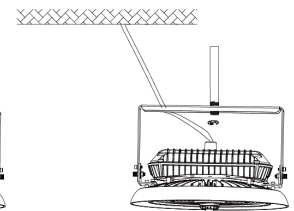

Fig. 11
4. After installation, connect the wire of the fixture to the mains according to local code. Ensure the connections are stable. By adjusting the bracket's screws, users can adjust 50° to the left or right vertically. (Fig.11)